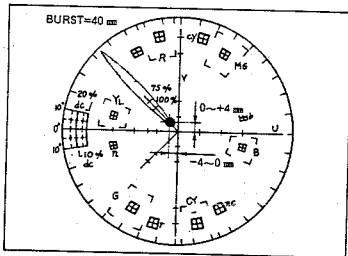

Fig. II-58
SPEC.	Set bright dot to position as shown in the Fig. II-58.
- (1) Shoot white chart with halogen lamp lighted.
- (2) Set each bright dots as in Fig. II-58, respectively.